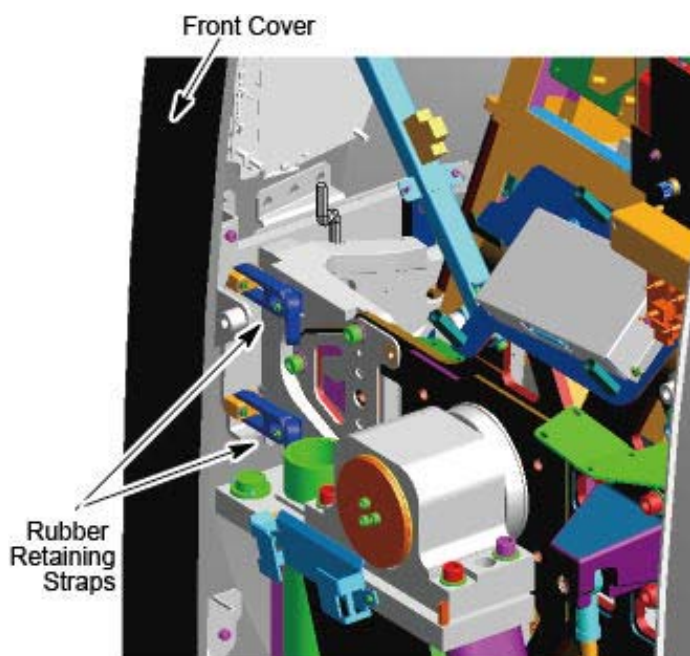

Figure A-15 Rubber Retaining Straps and Cover Locking Mechanism
- B.) Disengage the rubber retaining straps on right side. See Figure A-15. You may find it helpful to lift "up" on the cover to align the stud while attaching the rubber retaining straps.